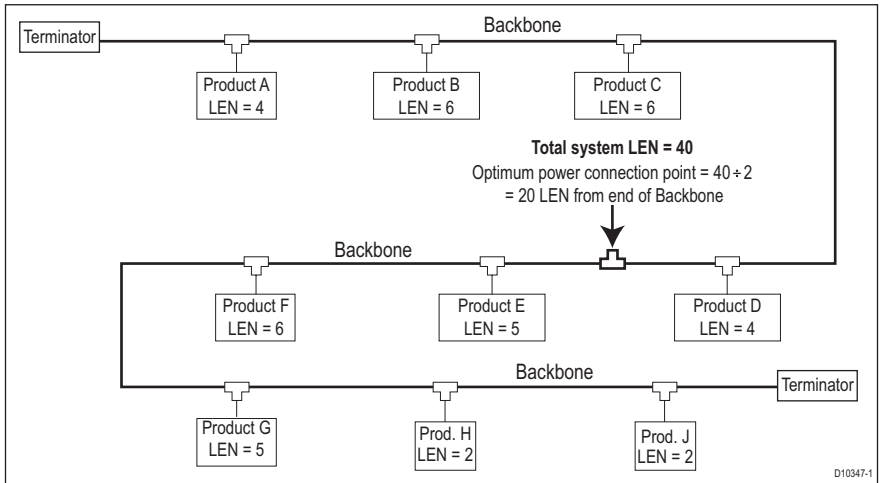

Figure 2-1 Where to connect SeaTalkng power in a balanced system
*Figure 2-1*, shows a theoretical balanced system. In this system the total LEN of the all products is 40, so the optimum power connection point is a total LEN value of 20 each end of the backbone.